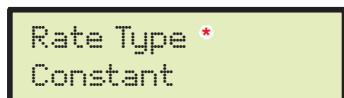

Fig. 57
- After selecting the job, the computer automatically passes to the setting screen of Rate Type* for the selected treatment (Fig. 57):